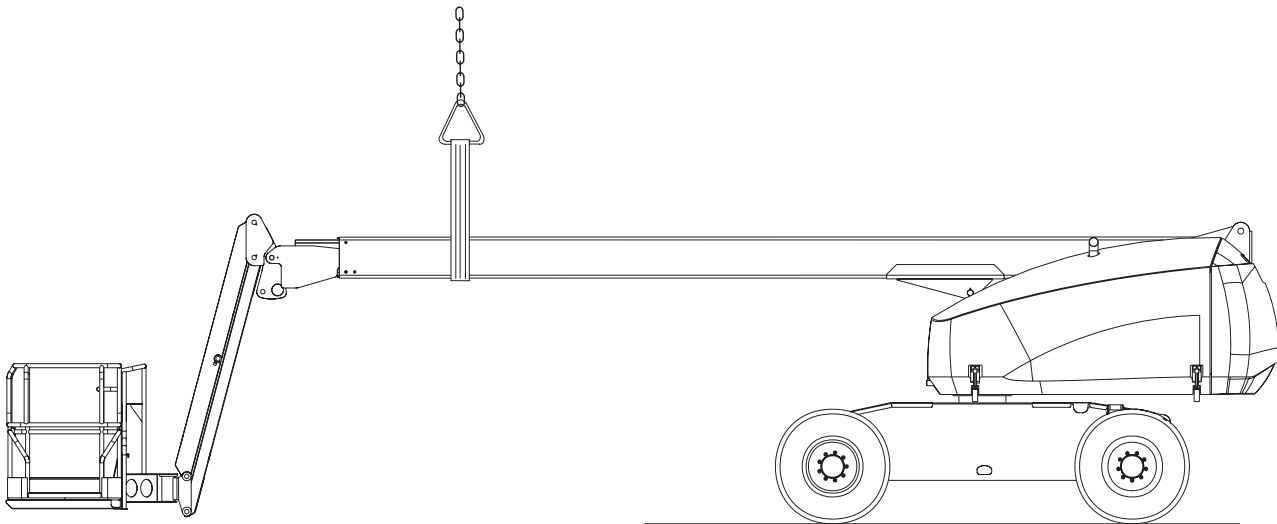

Figure 3-3: Supporting Elevating Assembly
3.2 Supporting Elevating Assembly (Figure 3-3)
(FIGURES 3-3 THRU 3-5)